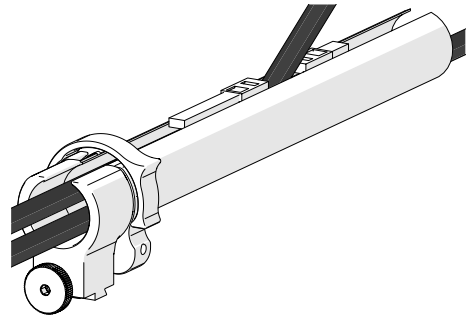

Fig. 75 - Flexible routing
4. When necessary, the two zippers may be opened to allow any cables to be routed out of the tube (Fig. 75).